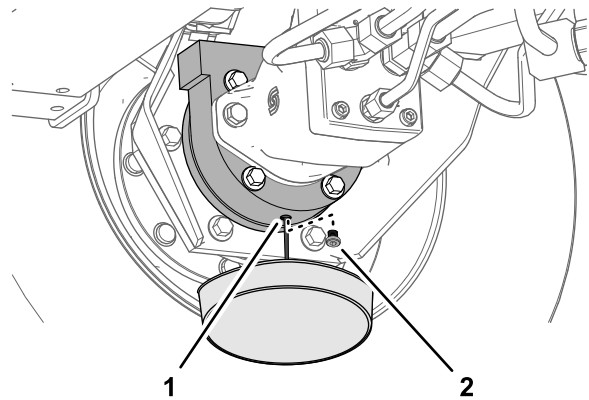

**Figure 60**
3. Place a drain pan under the planetary hub, remove the drain plug at the 6 o'clock position, and allow the oil to fully drain (Figure 60).
5. Install the drain plug into the drain hole of the planetary housing (Figure 60).
2. Remove the fill plug at the 12 o'clock position and the check plug at the 3 o'clock position (Figure 60).